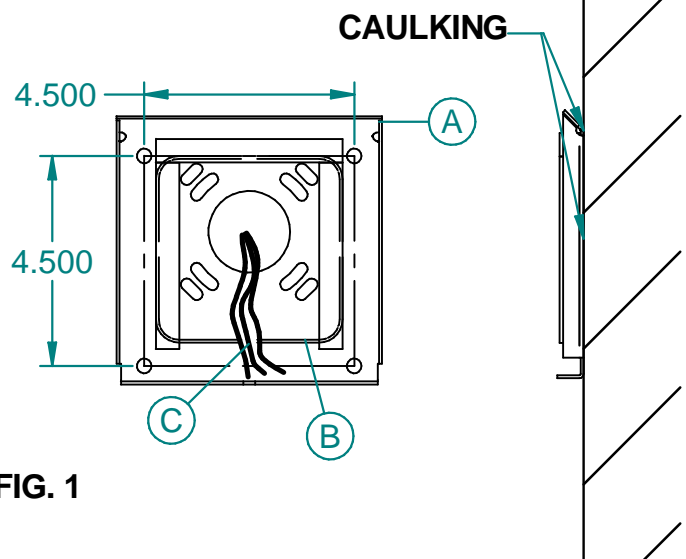

FIG. 1
- Using mounting bracket (A) as a template, align slots in bracket with mounting holes in junction box (B) on the wall. Mark hole locations (4) 4.5" square. (See Fig.1)
- Pull the supply wires (C) from junction box (B).